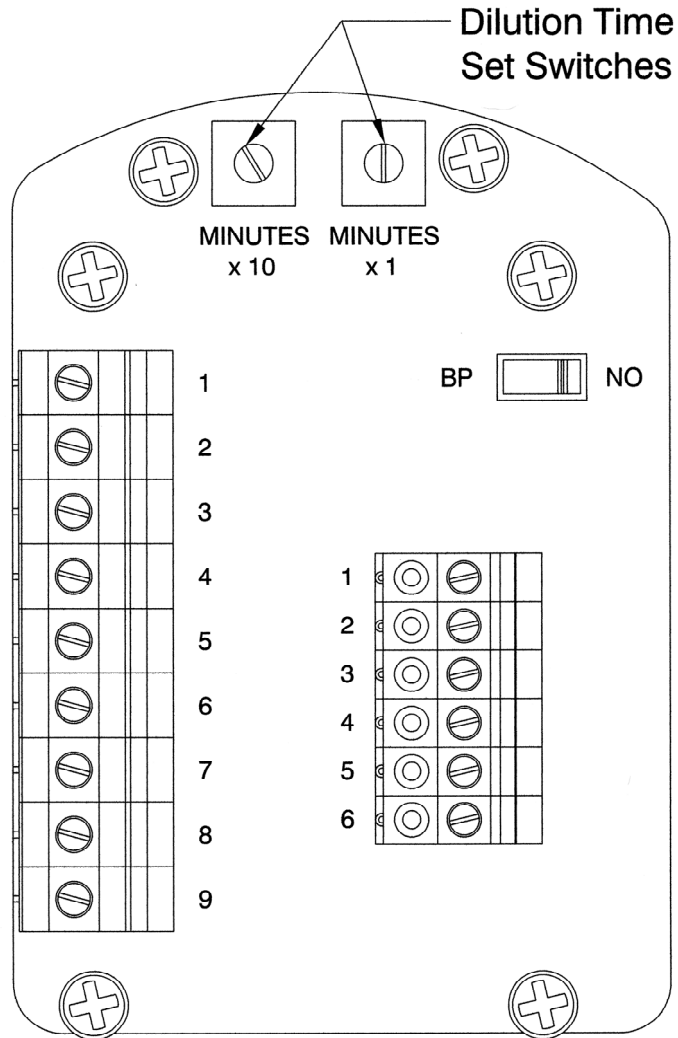

Figure 2
With Automatic Leakage Compensation Purge Gas Inlet Kit solenoid valve wires connected to terminal blocks in TRYCLOPS X – Purge Controller, SM Version set automatic dilution time cycle to ensure that at least five (5) times the volume of free space in the electronics enclosure is exchanged before power is automatically applied to the electrical equipment. Refer to Figure 2 for location and details of dilution time switches.